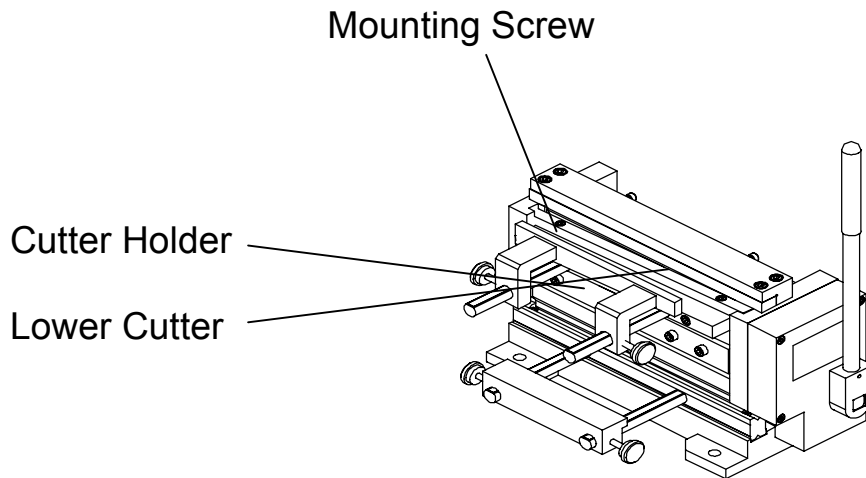

Figure 6 – Removing the Lower Cutter
Step 2: Loosen and remove the two mounting screws for the ram as shown in Figure 6.